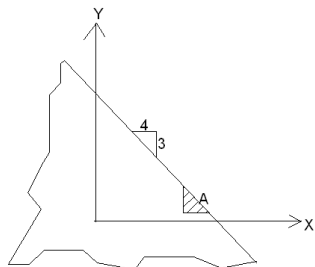

fig 4.3
3. At point A on an unloaded edge of an elastic body, oriented as shown in fig 4.3 with respect to XY axis, the maximum shearing stress is 2900 kN/m^2 . Find the principal stresses. (Ans: $5.73P$, $3.423P$)